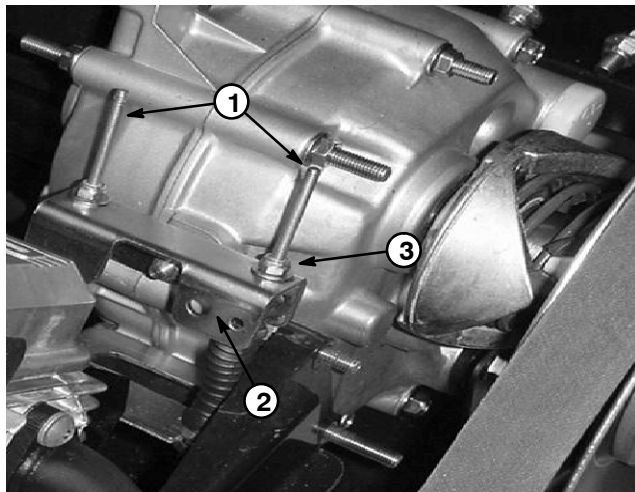

Figure 6
2. On vehicles with a shift lever neutral position (Fig. 6):